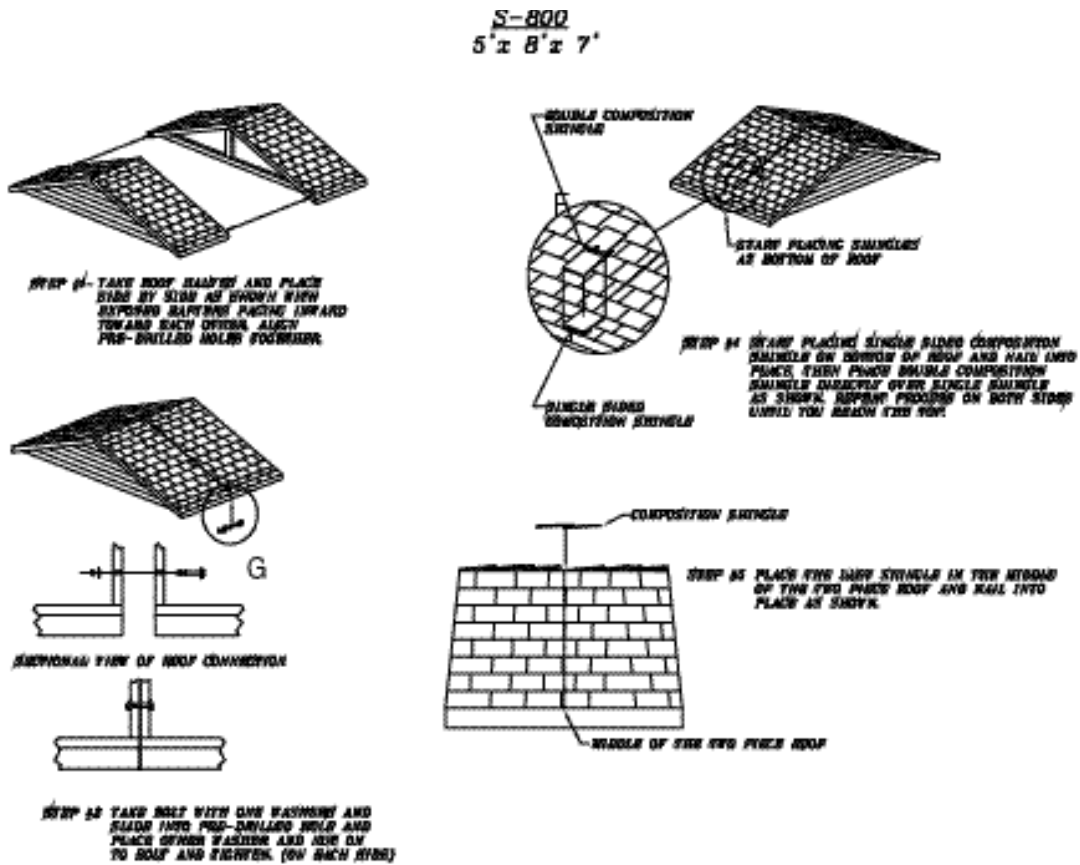

Figure 16C. S-800 Extreme Sauna Roof Assembly
**NOTE:** The following steps deal with **Figure 16C**.